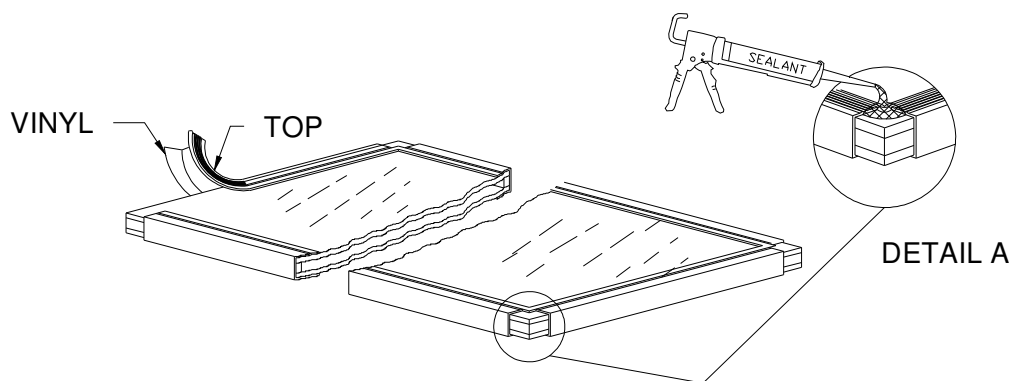

Figure 1:
2. Cut glazing vinyl at all four corners as shown in Figure 1, Detail "A".